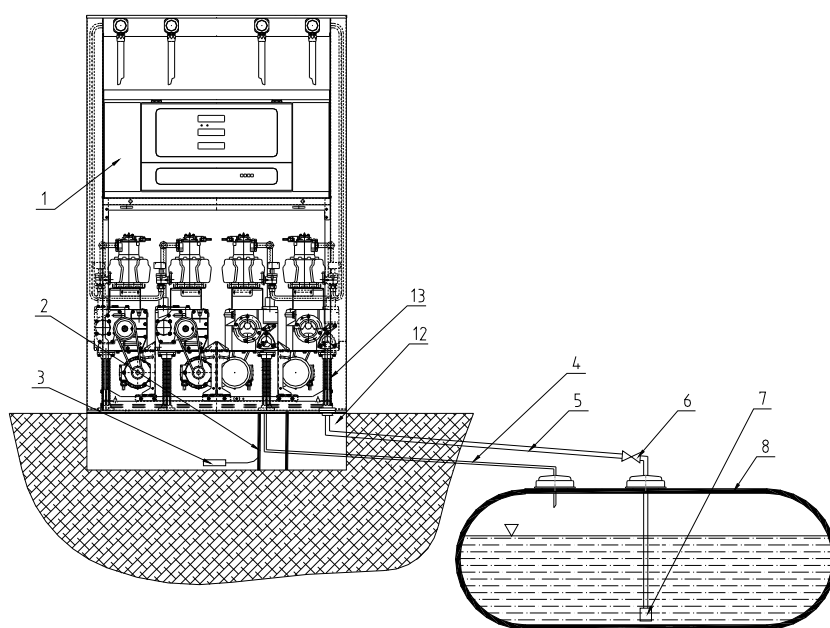

Figure 10 – Example of connection between the dispenser and the underground tank
**CAUTION** If the dispenser is connected to the **underground tank**, it is necessary to insert a **check valve** into the suction piping, to secure that when the dispenser is idling, the fuel column is not broken, because this would then lead to suction of air, when another fuel drawing is started. **An independent check valve does not need to be installed if the suction basket is already equipped with one check valve (see Figure 10)**